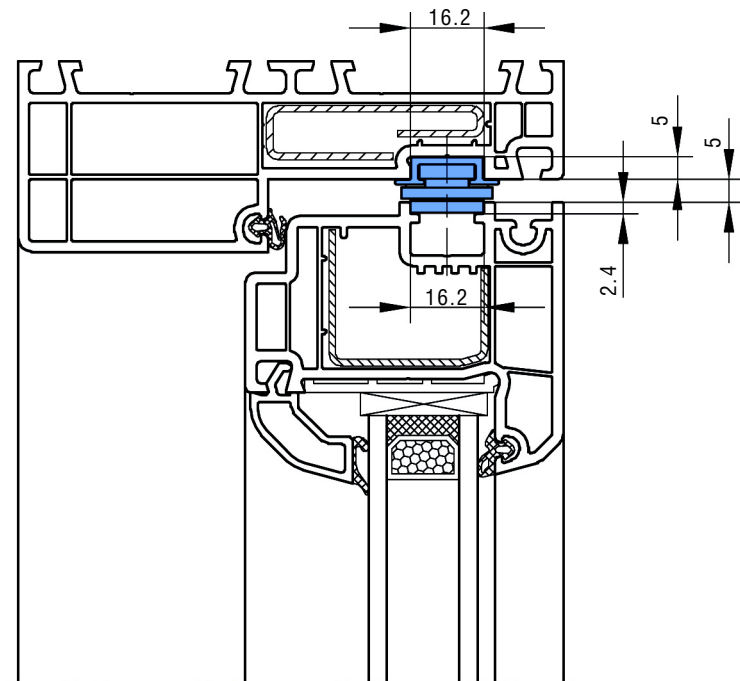

FIG. 1
1. THE FITTING SHOULD BE POSITIONED IN THE GROOVES AT HEAD AND CILL OF FRAME AND SCREWED ON (FIGURE 1 AND 2)